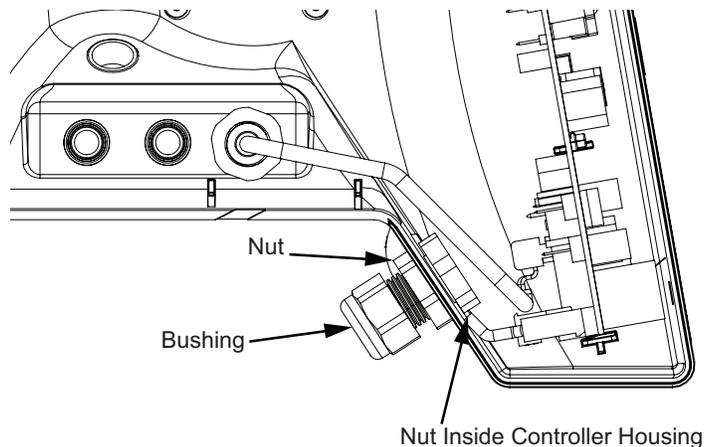

Figure 23. Connector bushing and nut position.
4. Tighten the nut on the interior side of the port opening on the controller enclosure. See Figure 23.
15. Tighten the nut on the interior side of the port opening on the controller enclosure. See Figure 23.